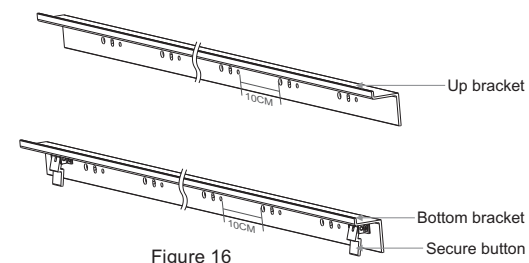

Figure 16
6. There is locking system on the Bottom bracket but no on the Top bracket, brackets' length are at half of Horizontal frames'. And there is 5 groups of holes on each brackets with 10cm distance, each group has 3 holes at  $\varnothing 5$ ,  $\varnothing 8$  &  $\varnothing 6$  from left to right. Brackets are suggested to mount at the middle point of frame with only 30% fluctuation if needed. (Figure 16)